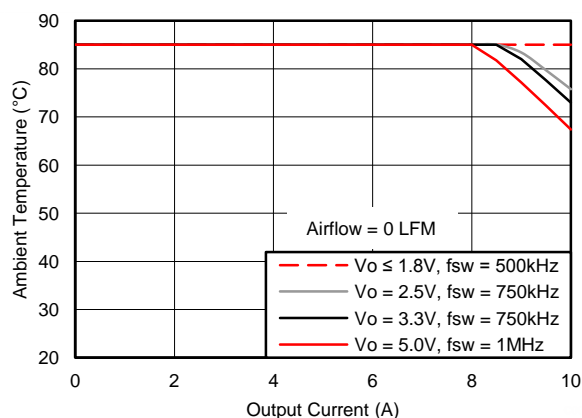
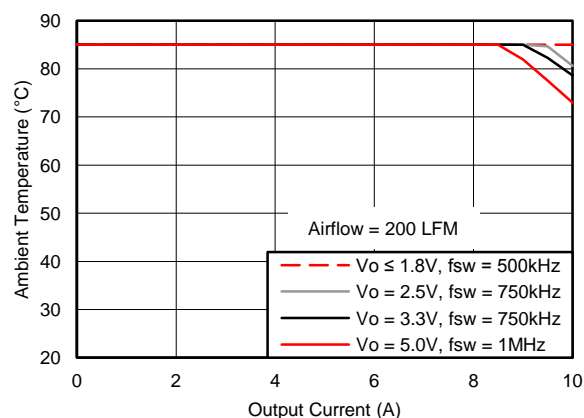

Figure 5. Safe Operating Area
Figure 6. Safe Operating Area
- (2) The temperature derating curves represent the conditions at which internal components are at or below the manufacturer's maximum operating temperatures. Derating limits apply to devices soldered directly to a 100 mm × 100 mm double-sided PCB with 2 oz. copper. Applies to Figure 5 and Figure 6.